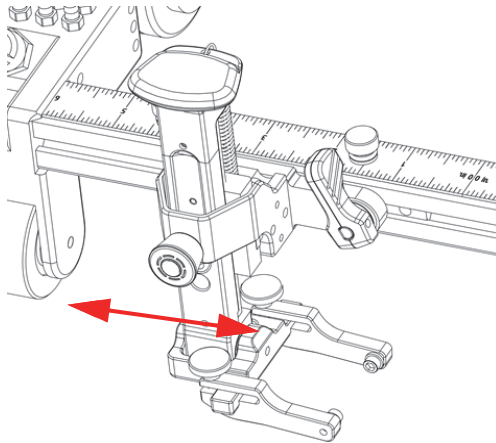

Figure 2-15 Sliding the probe holder
2. Slide the probe holder to the desired position (Figure 2-15 on page 46).